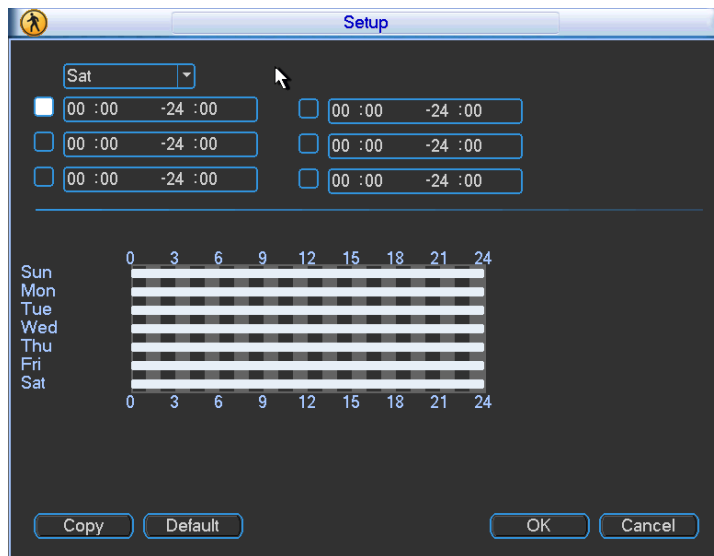
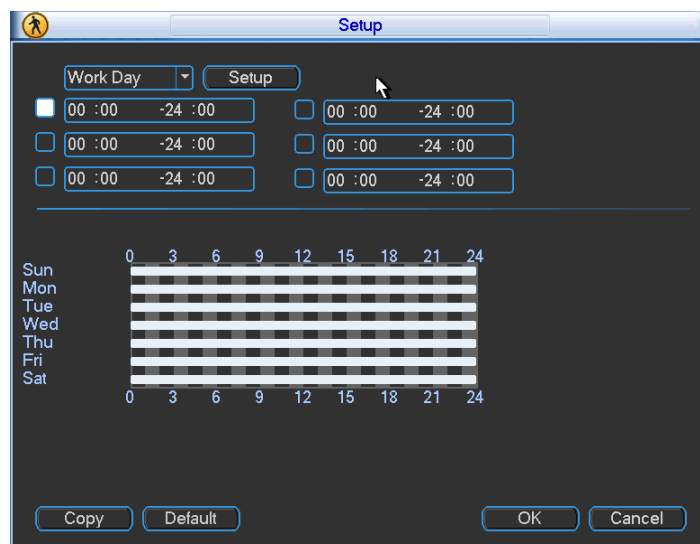

Figure 4-28
Figure 4-29
- z Period: Click set button, you can see an interface is shown as in Figure 4-28. Here you can set motion detect period. System only enables motion detect operation in the specified periods. It is not for video loss or the camera masking. Please select Sunday to Saturday from the dropdown list. You can see there are six periods for you to set. Please note you need to check the box before the period to enable the period setup valid. In Figure 4-28, select work day or non-work day from the drop down list, and then click the Set button, you can set your own business day and non-business day setup. See Figure 4-29. You can set Monday to Friday as the working day and Saturday and Sunday as non-business day. Click Save button to go back to previous interface.